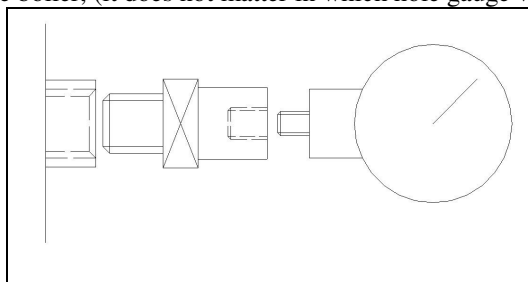

Fig. 11 9. Installation of pressure gauge
9. Installation of pressure gauge (fig 11):
The furnace is constructed of refractory concrete and high alumina brick. In the process of the construction of the furnace these components carry a large amount of water. Drying involves evaporation of water from the material, wherein the process must be slow and conducted in accordance with the present "graph drying refractory lining" fig. 11, because otherwise there will be ceramic cracking and chipping.